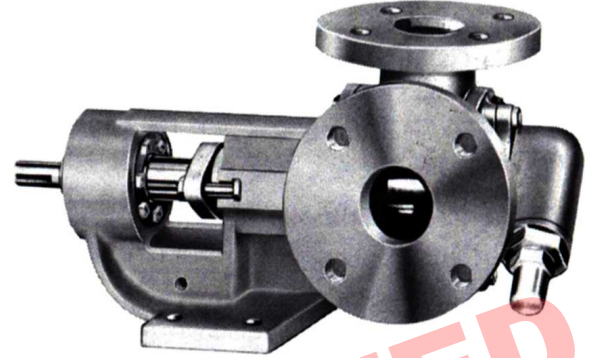

FIGURE 1
This manual deals only with Series 123 and 4123 heavy-duty Steel External Bracket Mounted Pumps. Refer to Figures 1 through 16 for general configuration and nomenclature used in this manual. Pump specifications and recommendations are listed in Catalog Section 151, Series 123 and 4123 Heavy-Duty Steel External Bracket Mounted Pumps.
4. Relief valve adjusting screw cap must always point towards suction side of pump. If pump rotation is reversed, remove pressure relief valve and turn end for end. **Refer to Figures 1 and 2.**
If pump was equipped with a relief valve and it was removed during disassembly, install on head with new gaskets. Relief valve adjusting screw cap must always point toward suction port. **Refer to Figures 1, 2 and 3** on page 1. For relief valve repair or adjustments, **Refer to Pressure Relief Valve Instructions**, page 12.